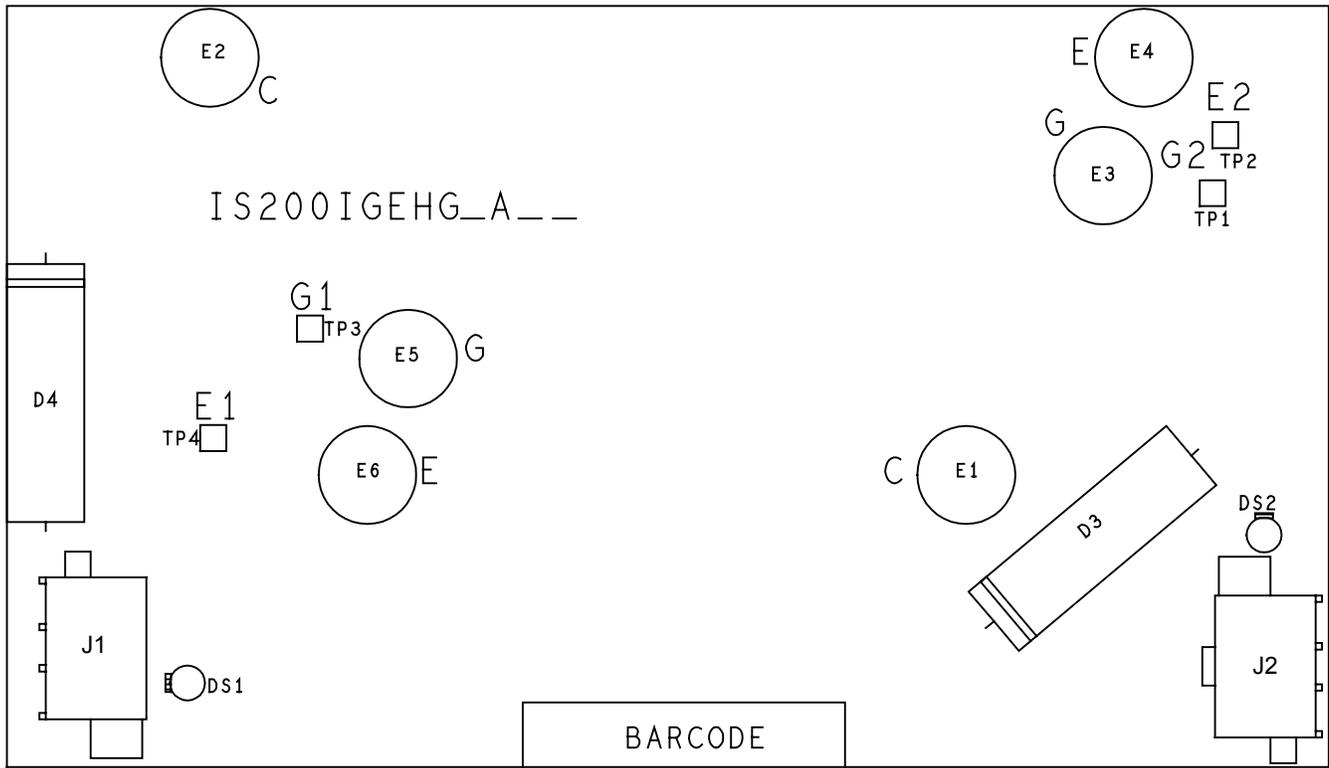

Figure 1. IGEH Board Layout Diagram
The IGEH board has no fuses, user adjustable hardware, or user testpoints. The IGEH board has two plug connectors and six eyelet connections. It also has two LED indicators. See Figure 1 for an IGEH board layout diagram, which shows the locations of these components and the following tables for descriptions:
5. Remove the Phillips-head screws, with lockwashers and washers, at the eyelet connections that secure the IGEH board to the IGBT module. See Figure 1 for IGEH board's six eyelet connection/screw locations (E1 – E6).